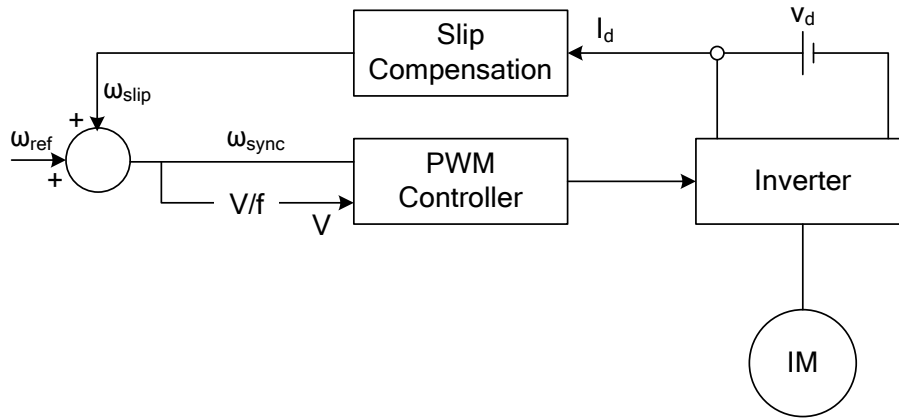

Figure 9.3: IM speed control by slip compensation – without speed feedback
The control of a three phase induction motor without direct speed measurement is described in [2]. In this experiment, the current limiter circuit is ignored and the applied voltage is V/f controlled. The block diagram for this control is given in Fig. 9.3. The dc current (I_d) is calculated on an average sense using (3). The power supplied to the induction motor is P_{IM} (4). Neglecting losses, the supplied power is related to T_{em} by (5). In the linear region of operation, T_{em} is proportional to ω_{slip} (6). The required ω_{slip} to support this torque can be calculated using (7). By (8), the frequency of voltages (ω_{sync}) that are applied to the motor can be calculated. The voltage magnitude is calculated such that V/f is a constant (Voltage boost is ignored). **Note:** This control strategy works only when the motor is already running, hence the motor is started and stopped using simple V/f control.